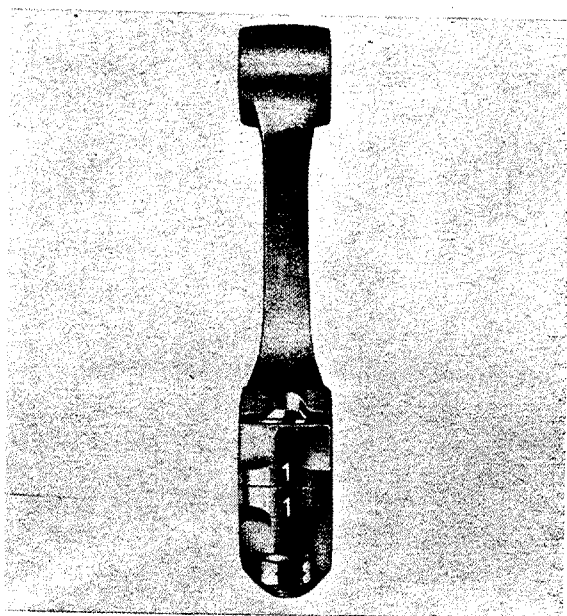

Fig. M 4i/6c
- c) Make sure that the numbers (1 to 6) etched into connecting rod and connecting rod cap are identical (Fig. M 4i/6c). If the piston is reused, the numbers on piston and connecting rod must also be identical.
- d) Install piston so that arrow on piston crown points in direction of travel (Fig. M 4i/6d). The numbers 1 to 6 on connecting rods and caps are on the left side of the engine (as seen in direction of travel).